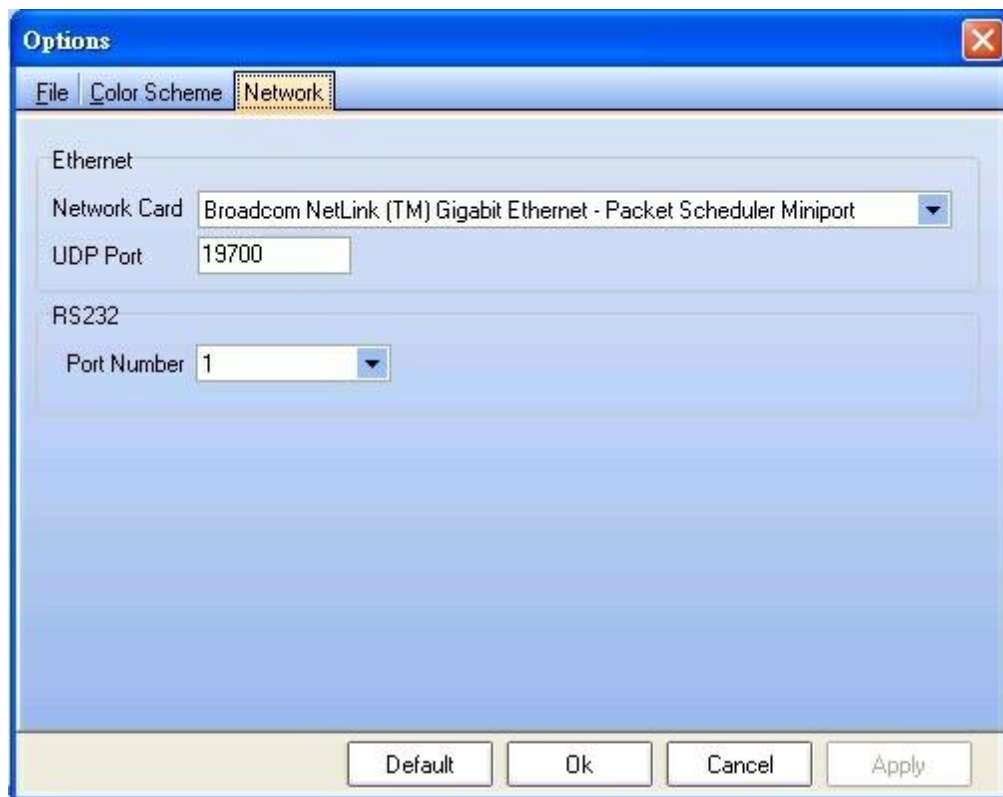

Figure 8: Network options page
- Next step is to set the network option. Simply click F12 or menu "Tools->Options". new pop window will appear directly on the network options page (Figure 8). Please check that the network card is one to be used.